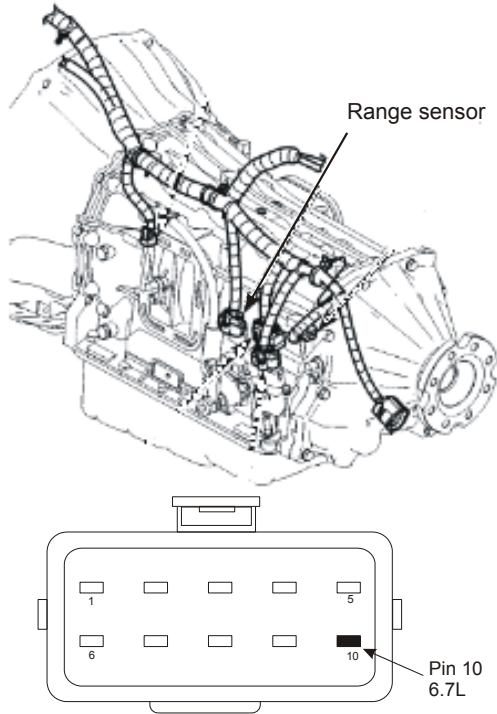

Figure 4
- Solder and seal the blue wire to the yellow wire with the dark blue stripe at pin 10 on the connector (Figure 4).